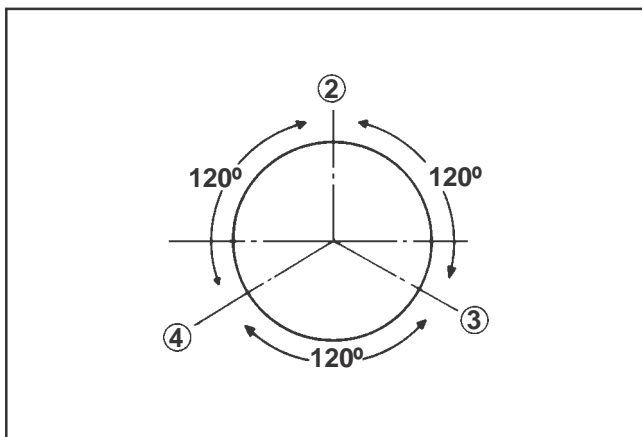

Figure 11-12. Piston Ring Gap Positioning.
- Stagger the piston rings in the grooves until the end gaps are 120° apart. See Figure 11-12. The oil ring rails should also be staggered.